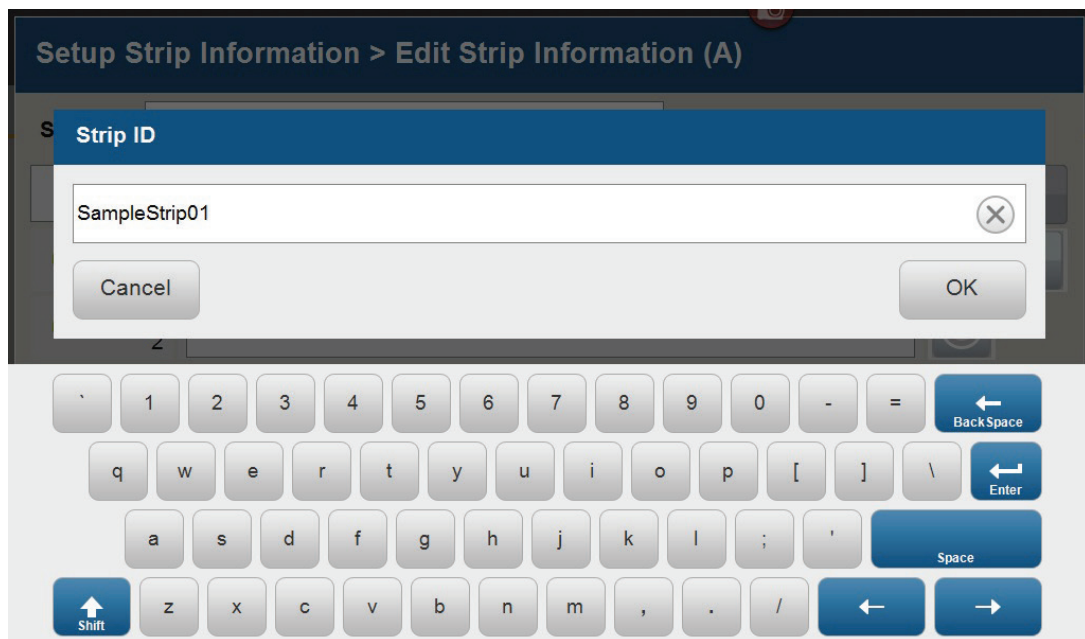

Figure 14. 'Set Strip ID' window.
3. The default Strip ID is date and time. It can be modified by selecting the Strip ID box. This opens the 'Set Strip ID' window and a keypad will become active on the touch screen (Figure 14). Alternatively, the Strip ID can be entered using a traditional keyboard if one is connected to the Spectrum Compact CE System. Enter the appropriate Strip ID, and then select **OK** to exit and return to the 'Edit Strip Information' screen.